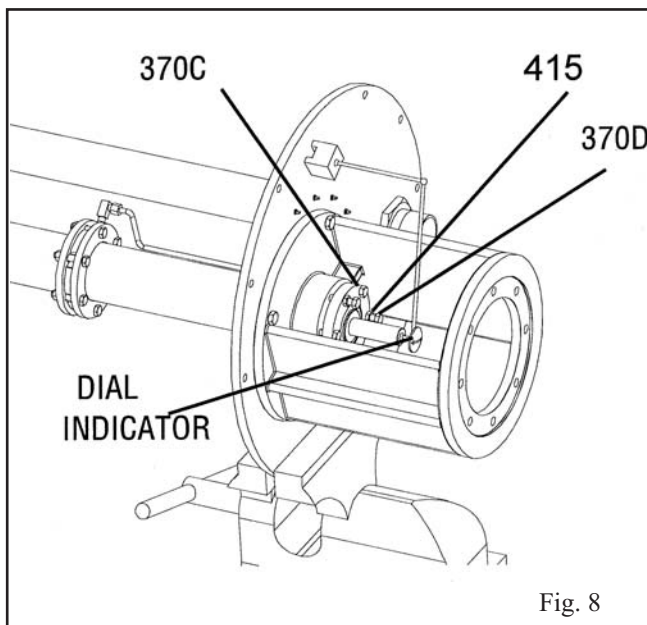

Fig. 8
3. Set indicator so the indicator button contacts either the shaft end or the face of the pump coupling hub (Fig. 8).
4. Loosen jam nuts (415) on jack bolts (370D). Back off jack bolts several turns.
5. Turn all locking bolts (370C) in several turns until impeller contacts the suction cover (182). Turn shaft to insure contact has been made.
8. Tighten the jam nuts (415) and the locking bolts evenly.